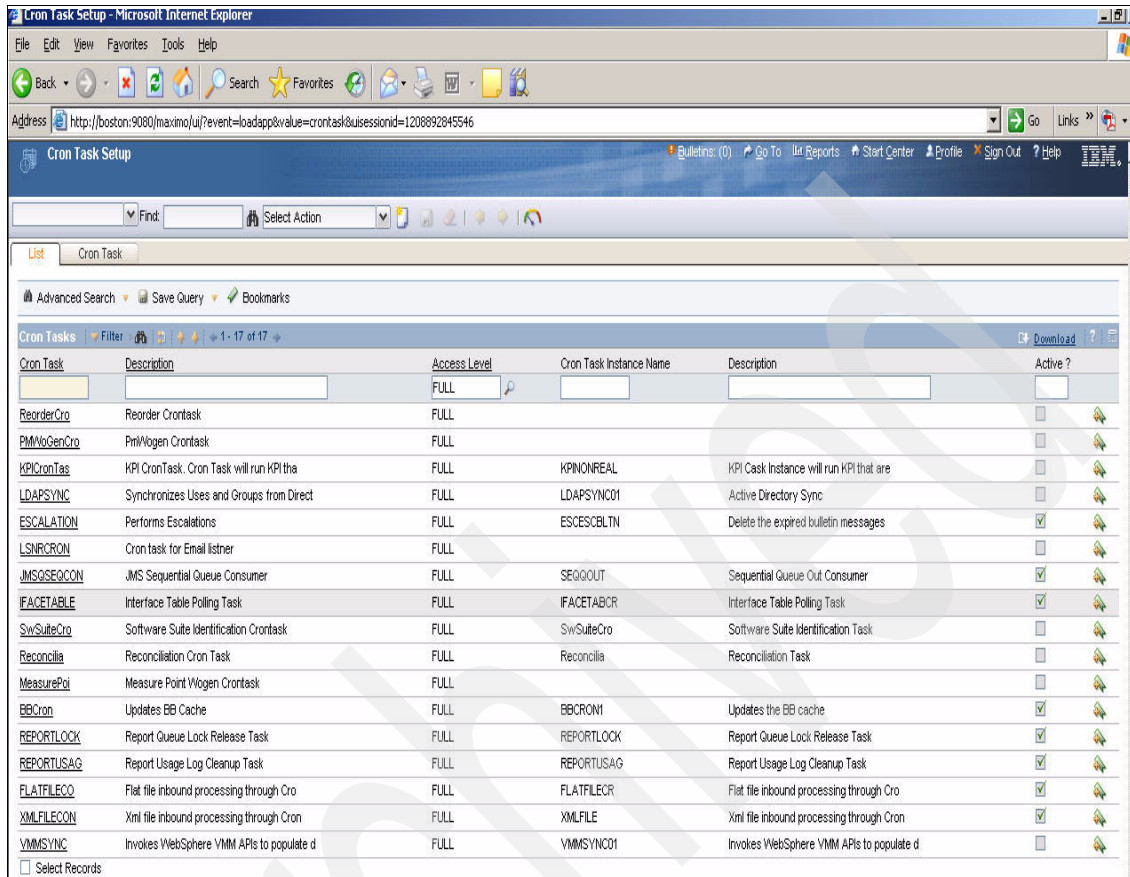

Figure 7-7 Cron Task setup
4. Turn on sequential queue CRON tasks from the Cron Tasks application (**Go to → System Configuration → Platform Configuration → Cron Task Setup** - Figure 7-7 on page 173).